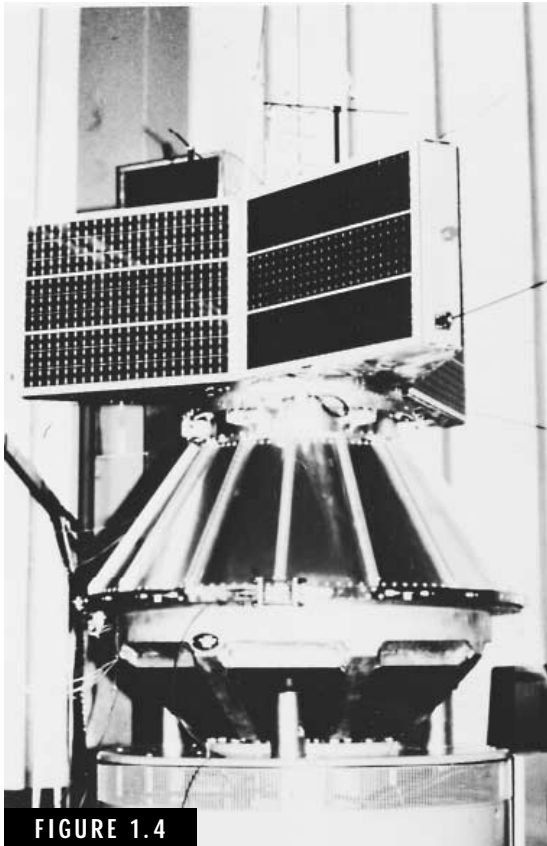

FIGURE 1.4
Amateur radio activity today ranges from high-frequency (80 to 100 meters) communications [involving cw, single-sideband voice, data (computer-to-computer and teletypewriter), and slow-scan television] to amateur communications satellites operating on frequencies from 28 MHz to 435 MHz and microwave frequencies (Figs. 1.4 and 1.5). Another space-age development is that of moon-bounce communications using the moon as a passive reflector for communications signals in the 144-MHz to 2450-MHz frequency bands. A recent development in the electronics field—digital microelectronics—is being adapted to amateur radio with increasing applications. The integrated-circuit (IC) chips containing logic gates, flip-flops, and even a complete “computer-on-a-chip” or digital processor, are